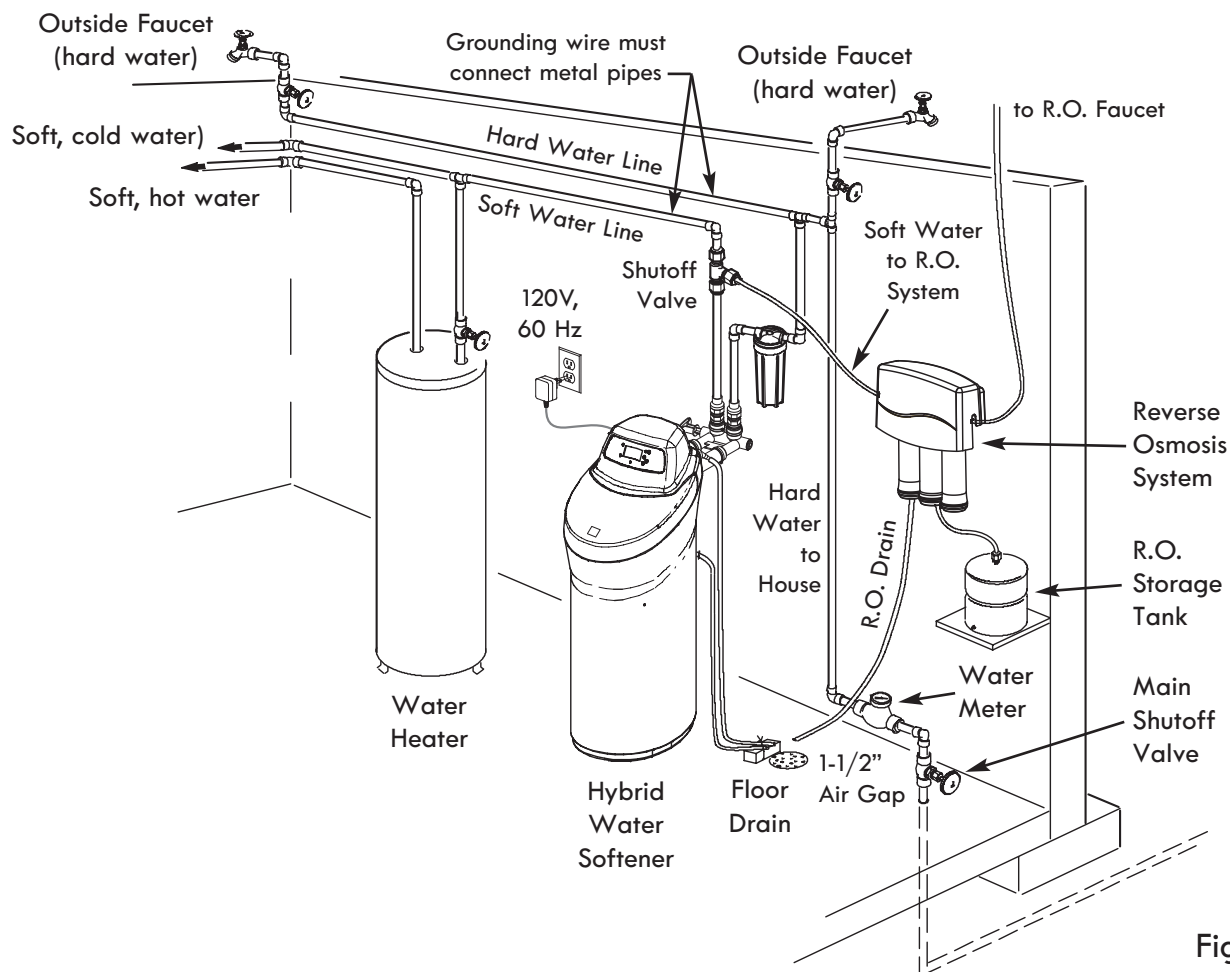

Figure 4
2. Place as close as possible to a water drain such as a floor drain, laundry tub, sump or standpipe (See Fig. 4).
4. Keep outside faucets on hard water to save soft water and salt. See Fig. 4.
7. A grounded, 120V, 60 Hz electrical outlet is needed near the softener to plug in the power supply (See Fig. 4). Be sure the outlet and power supply are in an inside location, protected from wet weather. Use a continuously "live" outlet, which cannot be accidentally switched off.
After installing your water softener, put the covers on. Angle the covers so the top cover clips onto the back first, then bring down in front and clip on the tabs inside the rim and lower the salt lid closed (See Fig. 4).